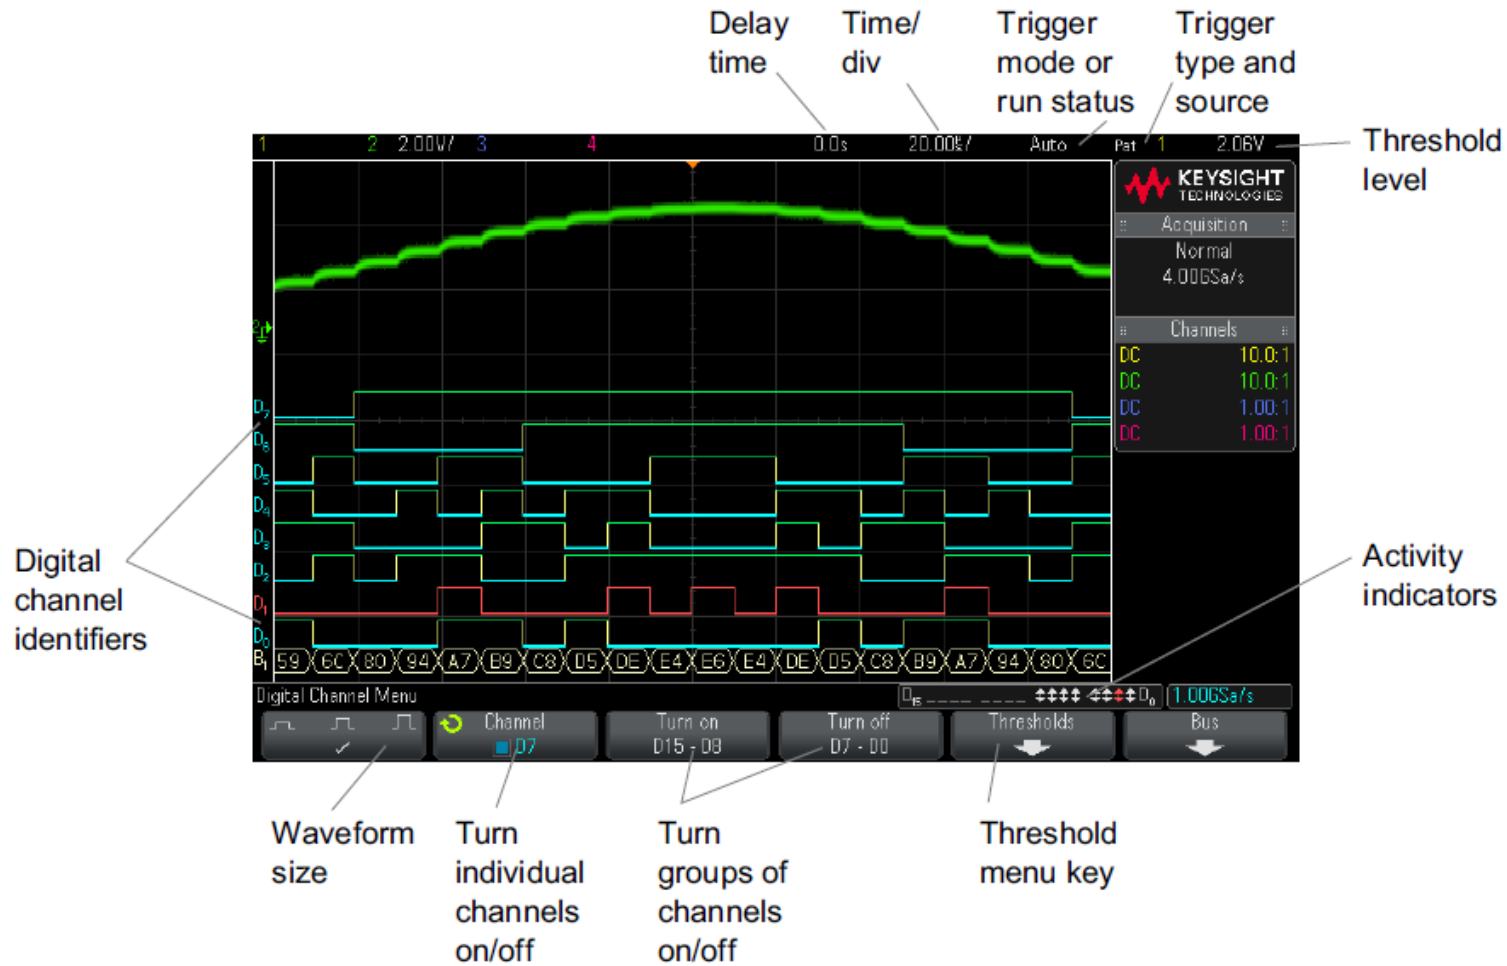

Figure 3. Typical Display with Digital Channels
- Figure 3 illustrates the main parameters and adjustments for analysis of logic signals on digital channels on the Keysight X 3012A MSO. The softkeys as shown on the screen image can be accessed by pressing the *Digital* button on the oscilloscope interface.